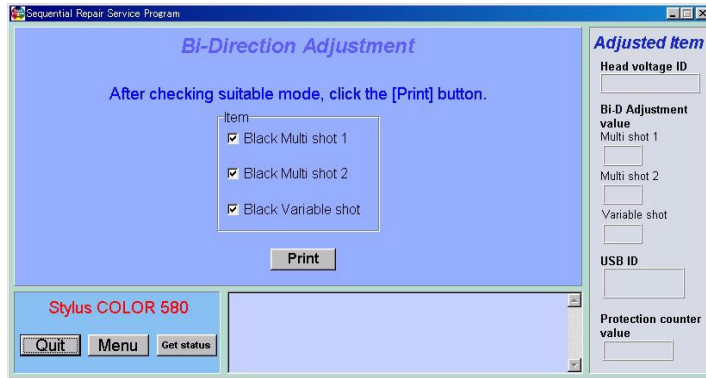

Figure 5-15. Bi-d adjustment menu
- After input the suitable pattern number, click the "Retry" button to return the Bi-directional check alignment + pattern print menu of Figure 5-15. When the "Print" button is clicked for the 2nd check pattern printing, following message is displayed. When the same paper used for 1st check pattern printing is set in the ASF and click the "OK" button in the following message, printer advances the paper automatically under the 1st printed pattern and the 2nd check pattern is printed from the position.